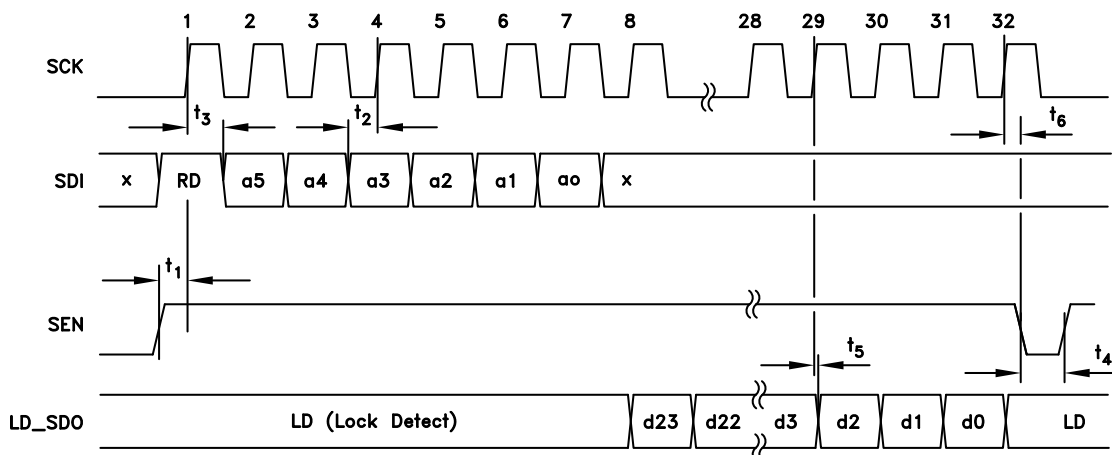

Figure 42. HMC Mode Serial Port Timing Diagram - READ
A typical HMC Mode READ cycle is shown in Figure 42.
- a. The Master (host) asserts both SEN (Serial Port Enable) and SDI to indicate a READ cycle, followed by a rising edge SCK. Note: The Lock Detect (LD) function is usually multiplexed onto the LD_SDO pin. It is suggested that LD only be considered valid when SEN is low. In fact LD will not toggle until the first active data bit toggles on LD_SDO, and will be restored immediately after the trailing edge of the LSB of serial data out as shown in Figure 42.
- b. The slave (synthesizer) reads SDI on the 1st rising edge of SCK after SEN. SDI high initiates the READ cycle (RD)